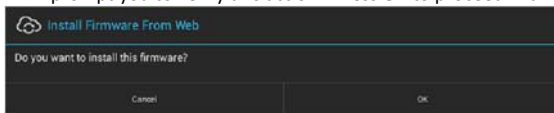

FIG. 123 System Prompt - Install Firmware From Web
4. Select the firmware version that will be used to update the panel and press **Install Update** to initiate the firmware update. The panel will prompt you to verify this action - Press **OK** to proceed with the update (FIG. 123):